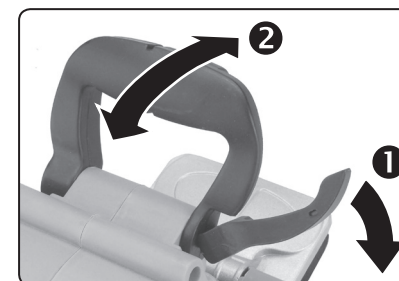

Fig. 7
- ➔ Tilt open the handle locking lever on the side and tilt the handle over to the required position (fig. 7). Then, again secure the handle in the given position using the locking lever.